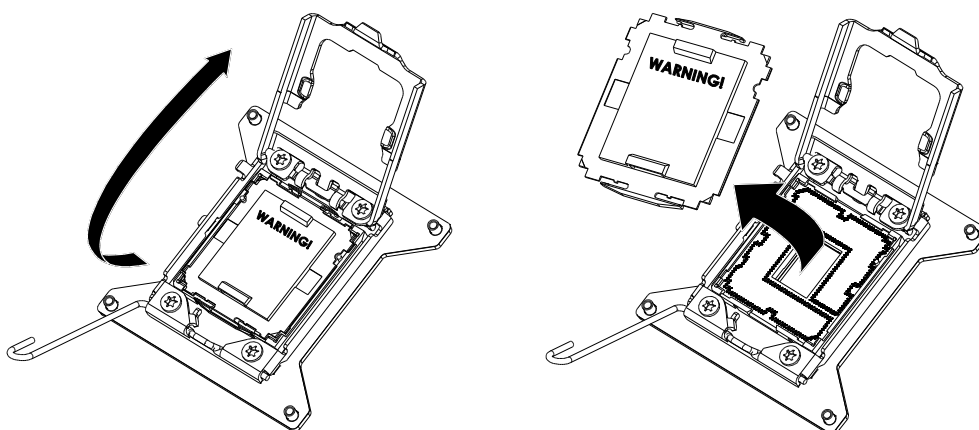

Figure 2-8 Schematic Diagram of Opening CPU Protective Cover
Step 3: As shown in Figure 2-8, release the lock lever along the direction of the arrow in the left diagram, and open the protective cover.